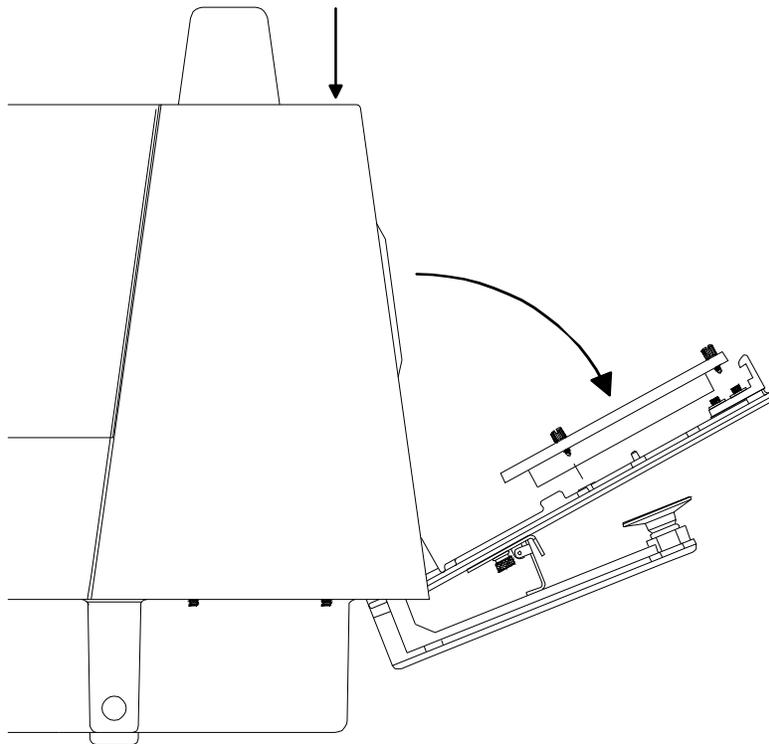

Figure 4-6. Aperture Mounting or Removal
3. Press down on the viewport door release button and rotate the sample door to the full open position. The aperture can now be mounted or removed. See Figure 4-6.